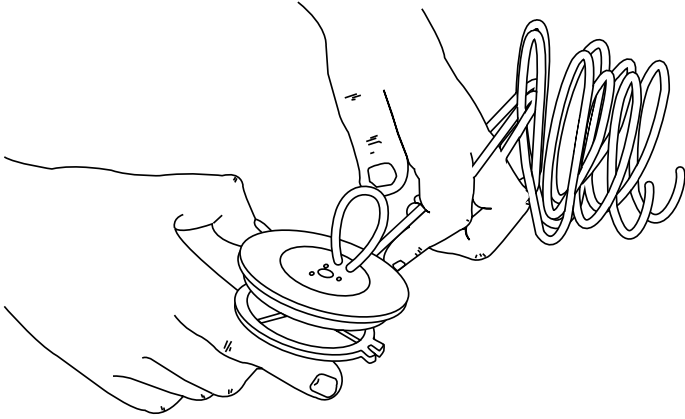

Fig. 25
6. Take approximately 25 feet (7.6 m) of new trimming line, loop it into two equal lengths. Insert each end of the line through one of the two holes in the inner reel (Fig. 25). Pull the line through the inner reel so that the loop is as small as possible.